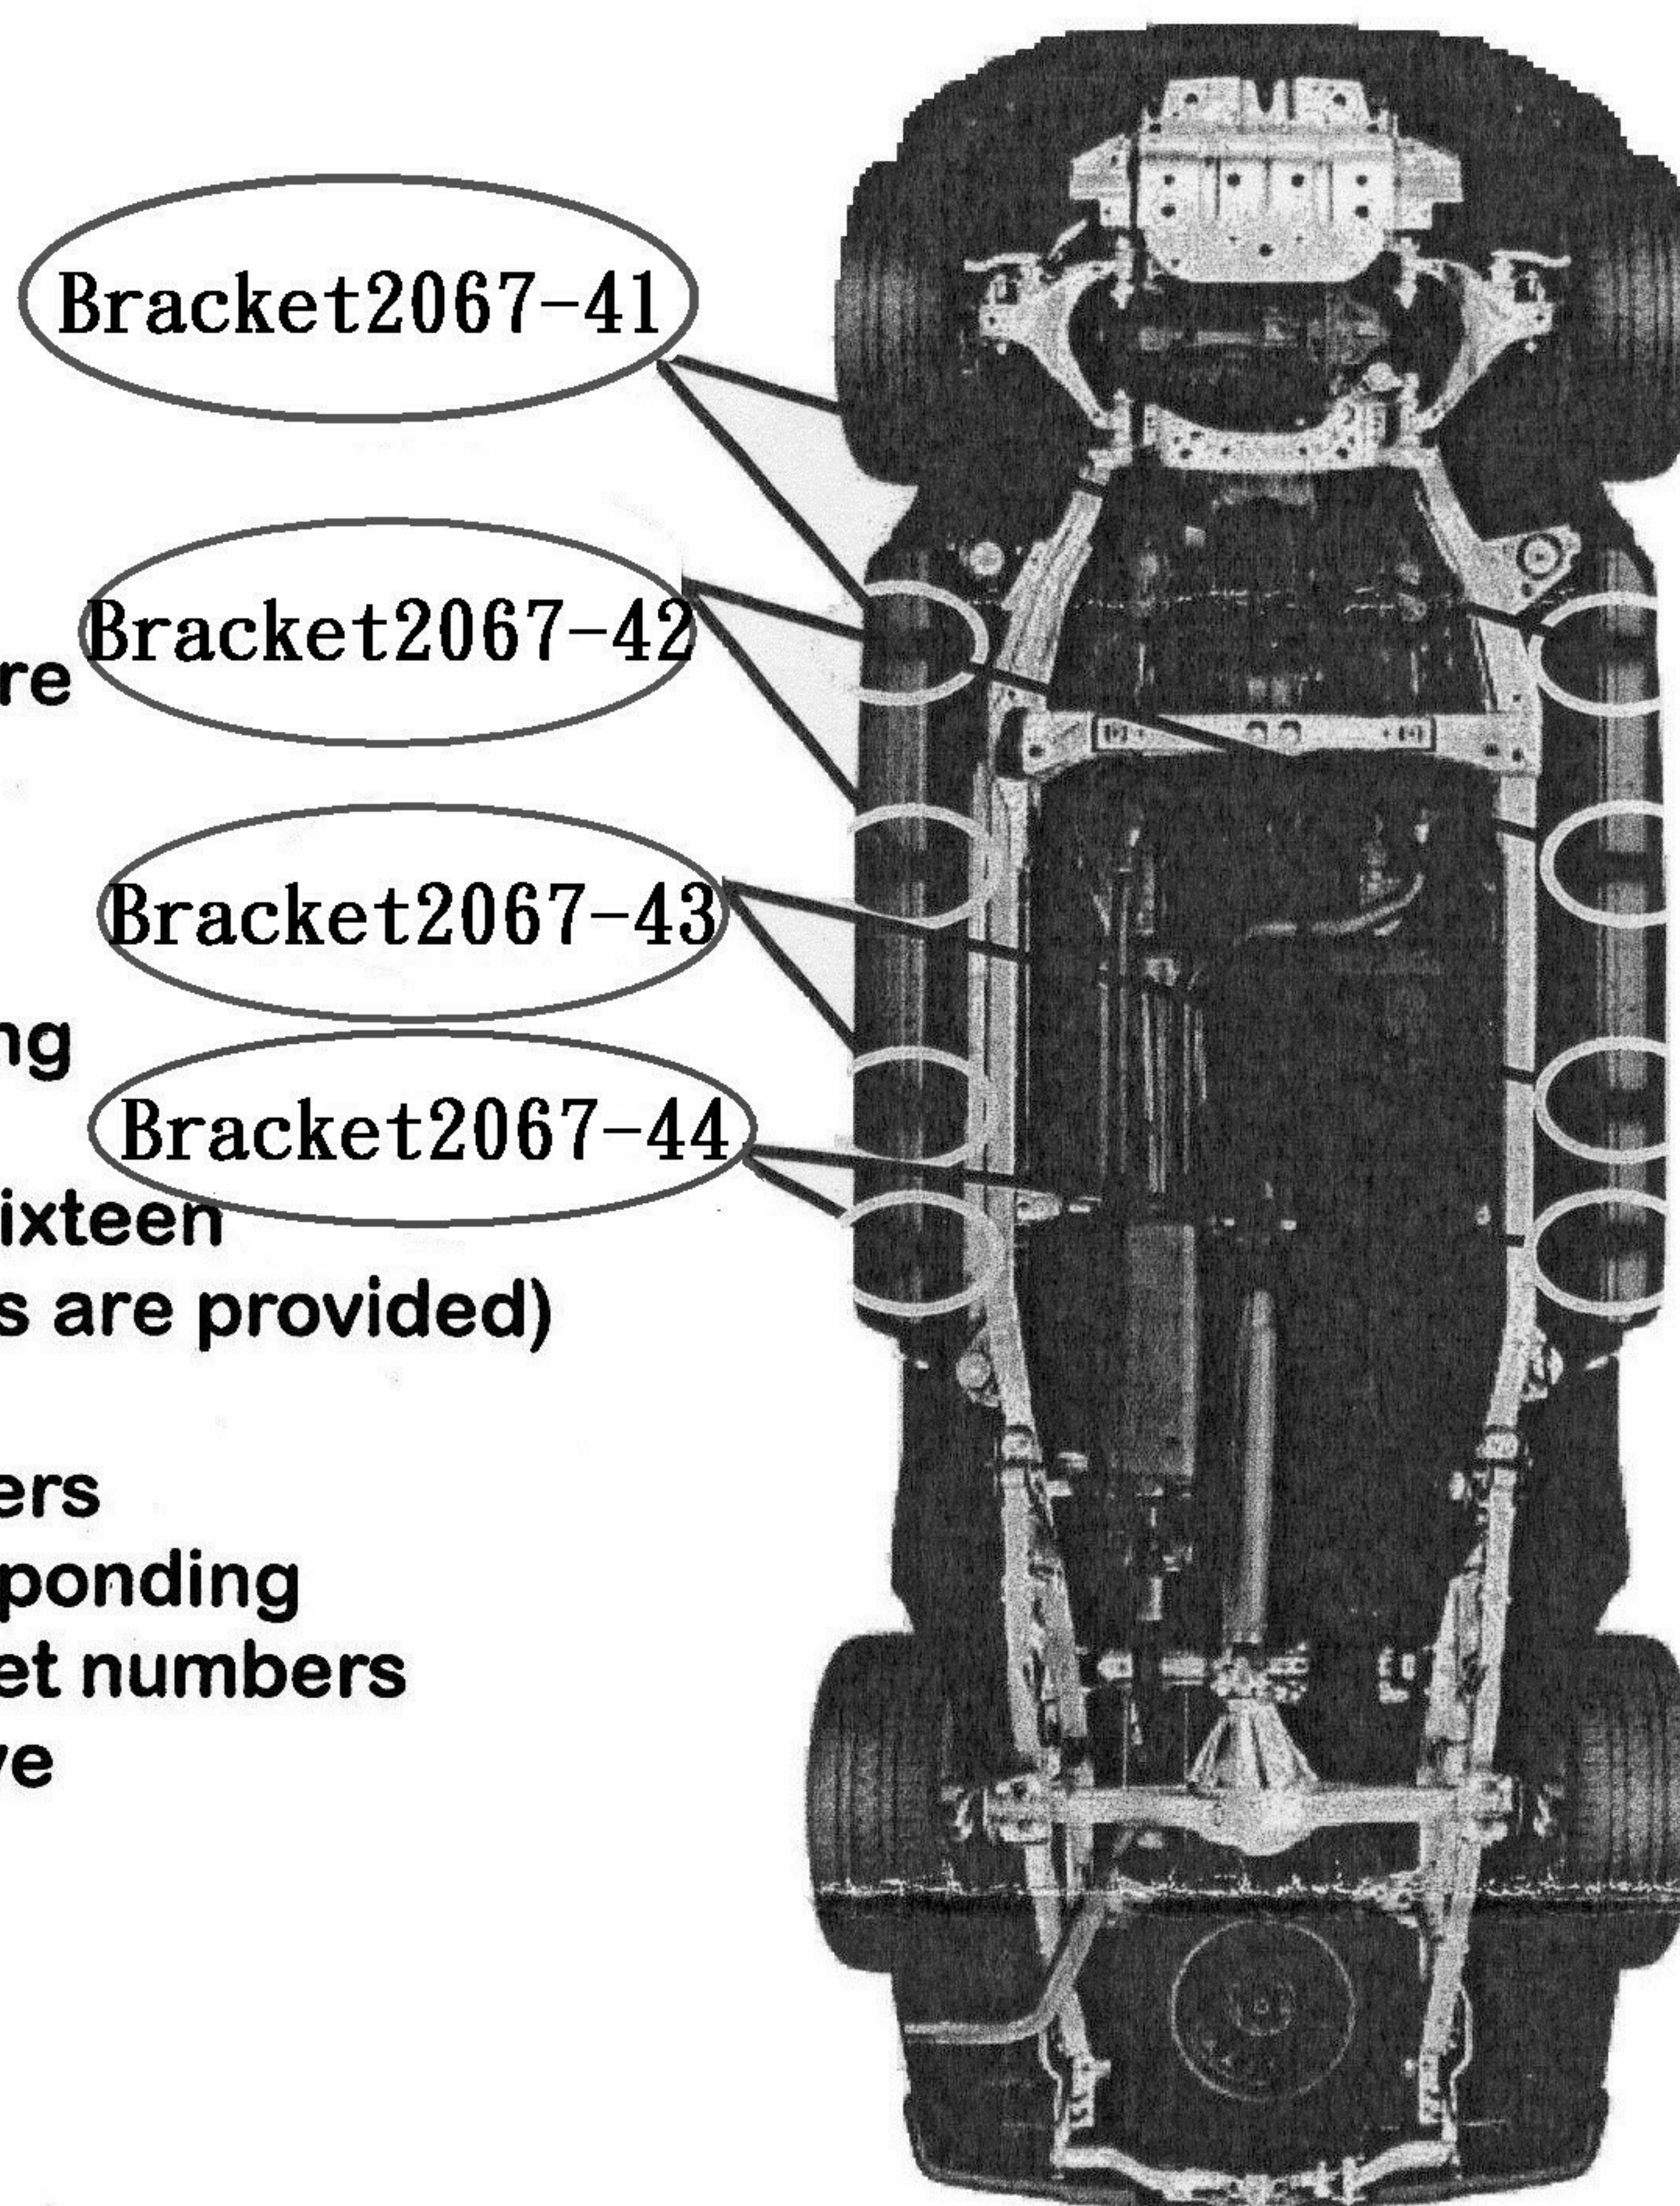

Fig 1
Step 2). Locate and identify factory mounting points (4 per side). Refer to Fig 1.
Step 3). Using two 8mm hex bolt with washers mount each bracket to their corresponding locations (refer to Fig 1), the bracket numbers are stamped on each bracket. Leave hardware loose at this time.